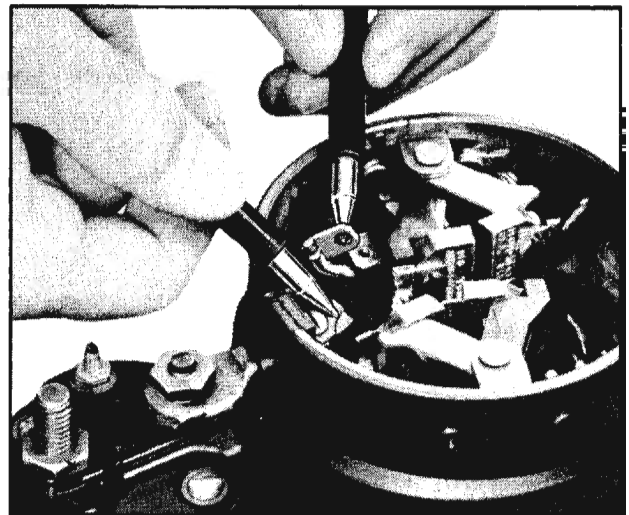

Fig. 14-34 Checking Shunt Coil for Open
- f. Using a 110-volt test lamp, place one lead on each end of one shunt coil. (Fig. 14-34) If the lamp does not light, the shunt coil is open and will require replacement. On starting motors used with premium fuel engines, test the other shunt coil in the same manner.